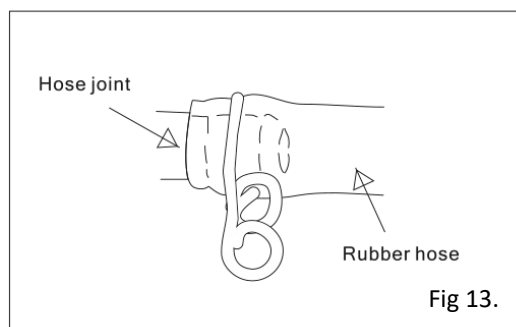

Fig 13.
7. Push the rubber hose onto the hose joint as far as it will go. Do not use a vinyl plastic hose, as this can be dangerous. Secure the hose with both sides of hose clamp. (Fig.13) see to it that the rubber hose does not touch a part of the gas cooker nor lies underneath it.